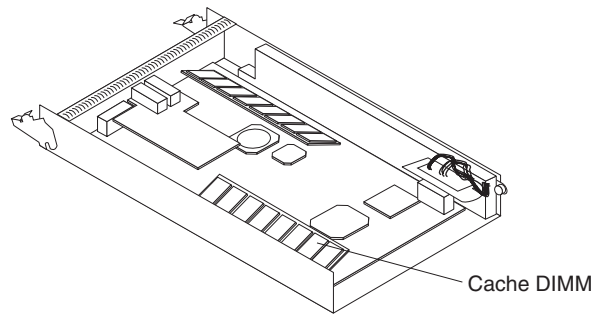

Figure 50. Removing the RAID cache DIMM
- a. Open the retaining clip on each end of the RAID cache DIMM connector. Figure 50 shows the cache DIMM that you will replace.
- a. Open the retaining clip on each end of the cache DIMM connector. Figure 50 on page 71 shows the cache DIMM that you will remove.